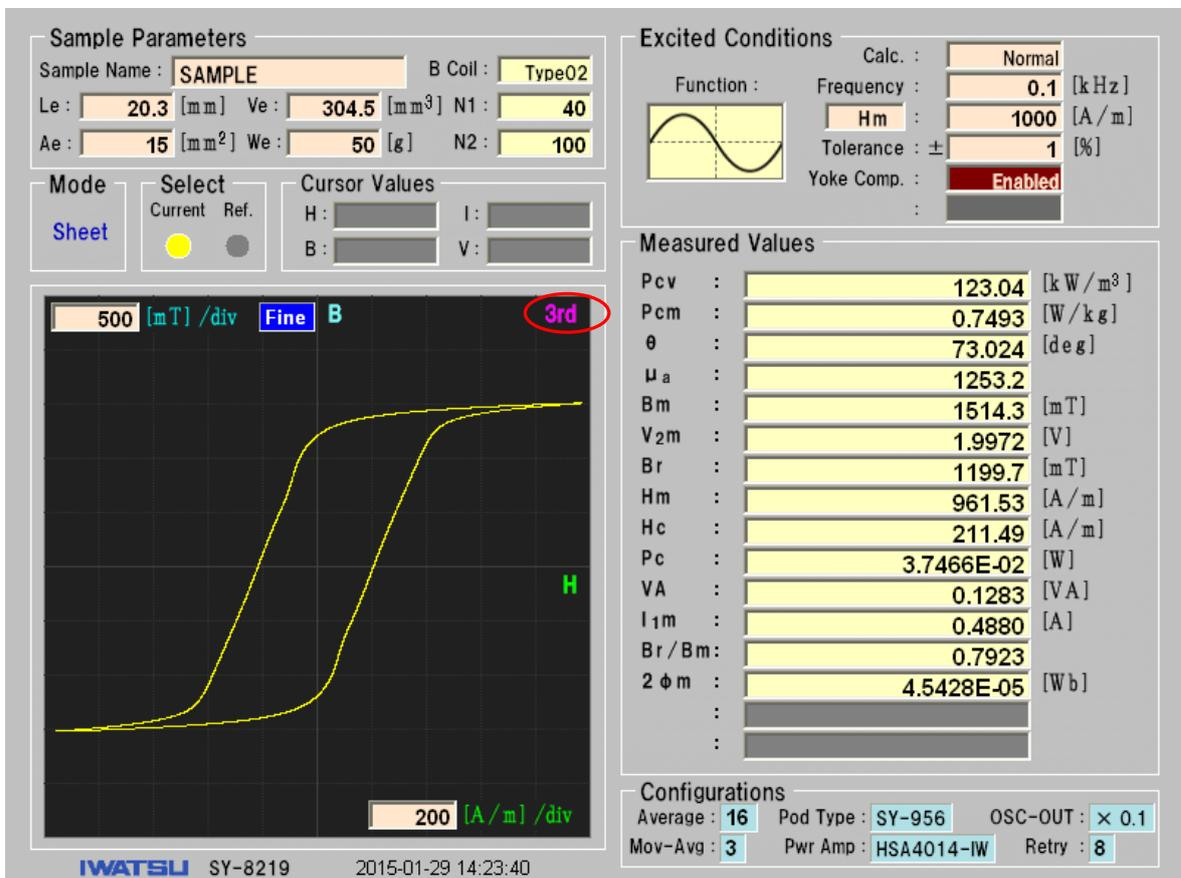

Fig. 4-20 3rd Measurement Screen
- (2) When the 1st measurement has been completed successfully, the 1st measurement result is displayed. Then, “2nd” is displayed in magenta color at the top right corner of the B-H graph screen (the top left corner on the time axis graph) to show that the second measurement is taking place.
- (3) When the 2nd measurement has been completed successfully, “3rd” is displayed at the top right corner of the B-H graph screen (the top left corner on the time axis graph) to show that the third measurement is taking place. (See Fig. 4-20)
- (4) When the 3rd measurement has been completed successfully, the message “Measuring!” disappears and the measurement result with Yoke Comp. is displayed.
- (5) Press  to forcibly stop measurement after starting. When the 2nd or 3rd measurement is forcibly terminated, the 1st measurement result is displayed on the screen.